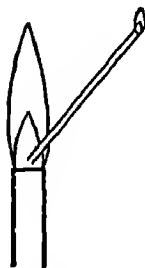

FIG. 105.
**Expt. 145.** Hold a piece of wire in various parts of the flame. It glows in the outer region but not in the inner. Place the end of a short piece of glass tubing in the inner region and light the gas issuing at the other end (Fig. 105).
**Expt. 150.** Hold a glass tube with one end in the dark region as shown in Fig. 105 and apply a light to the other end. Unburnt gas travels from the inner dark region and burns at the other end of the tube.